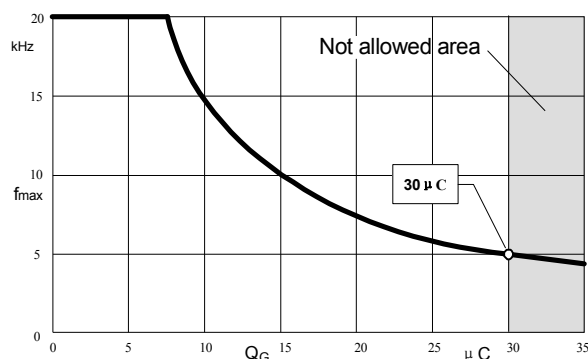

Fig.6 Relationship between maximum operating frequency and charge per pulse
6).Fig.6 shows the relationship between maximum operating frequency and charge per pulse.